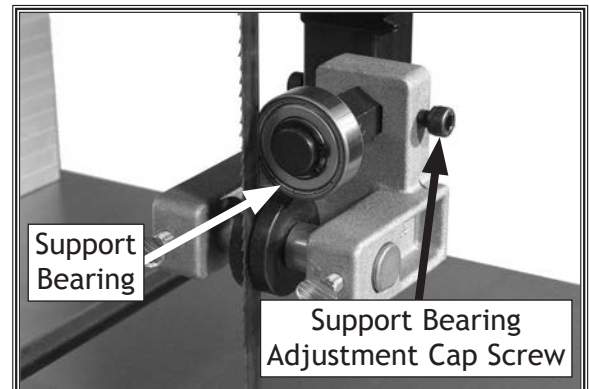

Figure 45. Upper support bearing assembly and controls (guide post cover removed for clarity).
2. Loosen support bearing adjustment cap screw (see **Figure 45**).